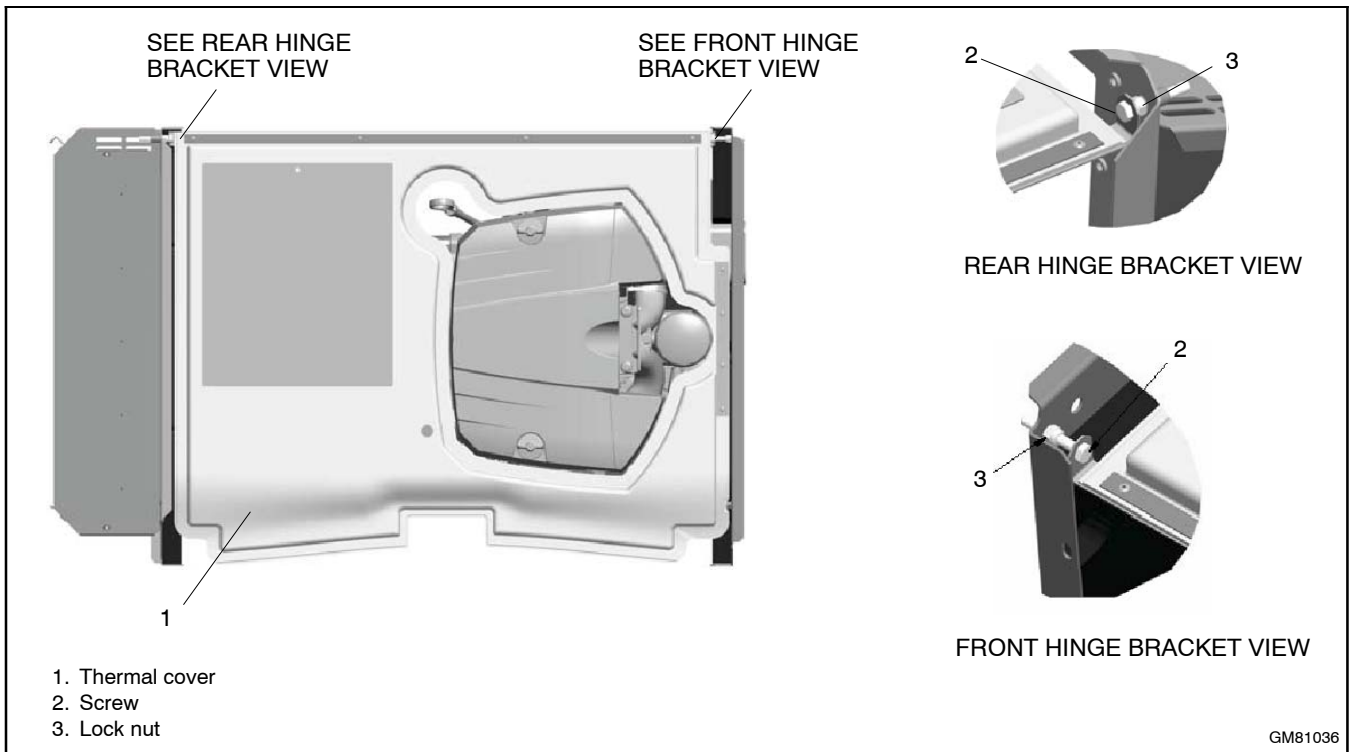

Figure 7-37 Thermal Cover
- e. Install the thermal cover shown in Figure 7-37.